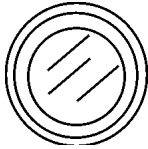

Figure 45. Pre-Heat Lamp
4. Depending on the temperature of the coolant (cold weather conditions), the pre-heat lamp (Figure 45) will light (**ON**) and remain on until the pre-heating cycle has been completed. After completion of the pre-heating cycle, the light will go **OFF** and the engine will start up automatically.